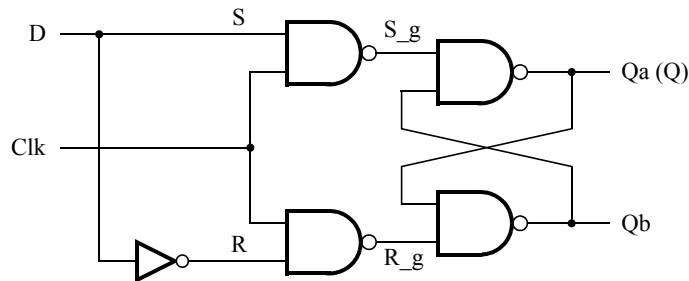
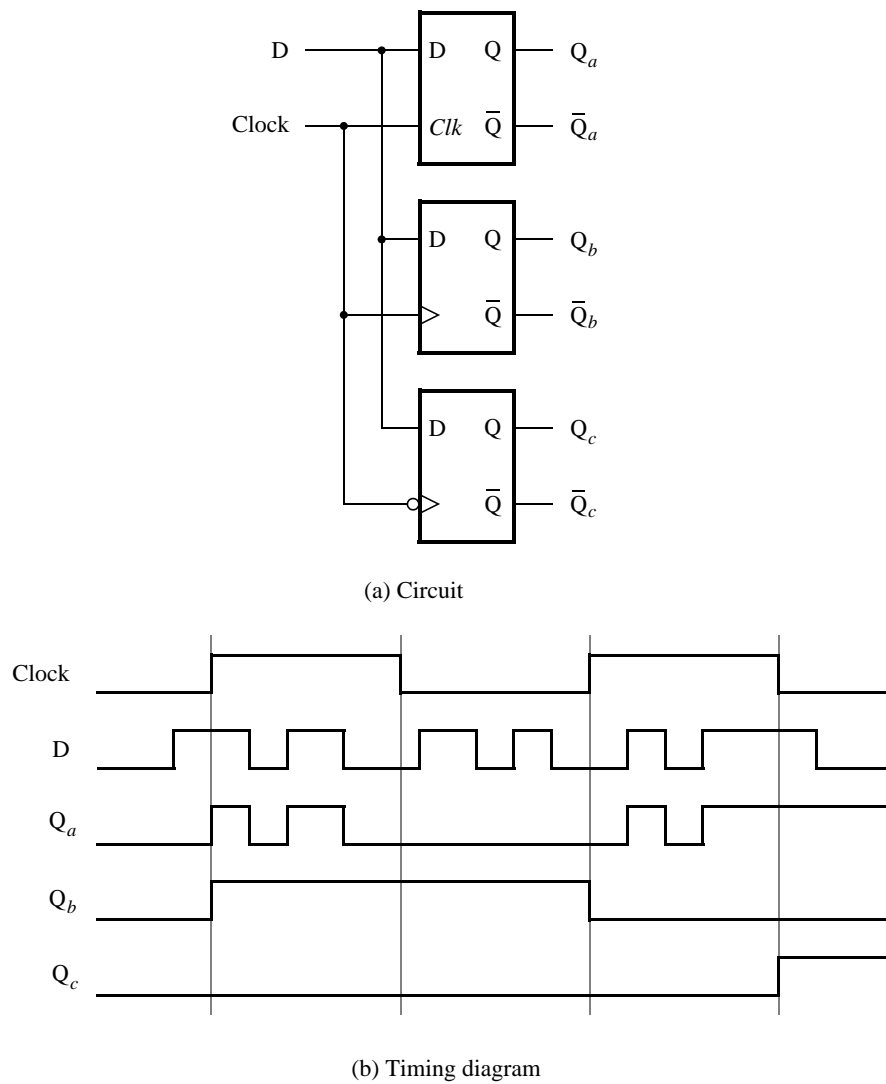

Figure 4. Circuit for a gated D latch.
Figure 6. Circuit and waveforms for Part IV.
Figure 4 shows the circuit for a gated D latch.
Figure 6 shows a circuit with three different storage elements: a gated D latch, a positive-edge triggered D flip-flop, and a negative-edge triggered D flip-flop.
2. Write a VHDL file that instantiates the three storage elements. For this part you should no longer use the *keep* directive (that is, the VHDL ATTRIBUTE statement) from Parts I to III. Figure 7 gives a behavioral style of VHDL code that specifies the gated D latch in Figure 4. This latch can be implemented in one 4-input lookup table. Use a similar style of code to specify the flip-flops in Figure 6.
4. In QSim, create a Vector Waveform File (.vwf) which specifies the inputs and outputs of the circuit. Draw the inputs *D* and *Clock* as indicated in Figure 6. Use functional simulation to obtain the three output signals. Observe the different behavior of the three storage elements.